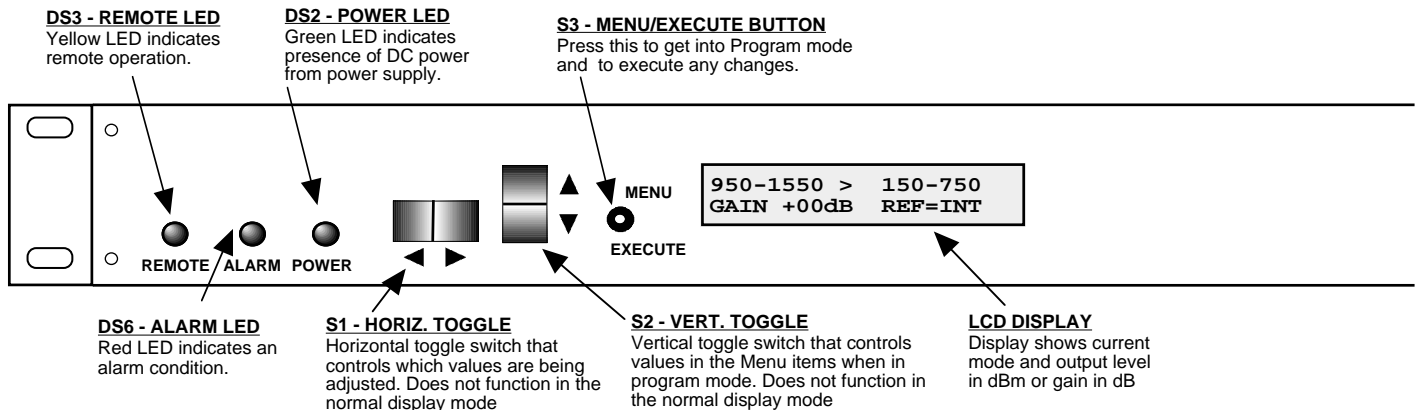

FIGURE 2.2 2083-218# Front Panel Controls and Indicators
Figure 2.2 shows the front panel controls and indicators.
5. Be sure DS6 (green, DC Power) is on and DS2 (red, Alarm) is off (Figure 2.2).
Alarm indications appear on the LEDs (see Figure 2.2).